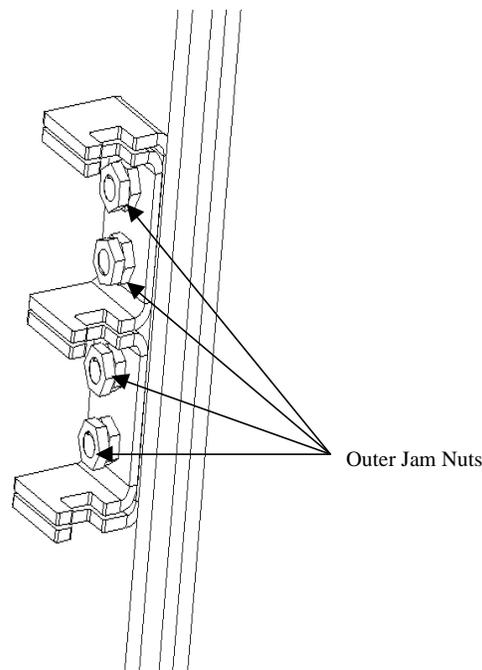

Figure 7. Installing the Jam Nuts.
10. Close the door to the vault and turn the locking handle to the locked position. There should be no binding and the handle should easily turn in both directions. If the handle is difficult to turn, or the door will not lock, slightly loosen the nuts and strike the top and bottom of the pry brackets with a hammer. Tighten the bolts using the $\frac{3}{4}$ " socket. See Figure 7.
11. Place another nut onto each of the screws and tighten it down on top of the previously installed screws. See Figure 7.